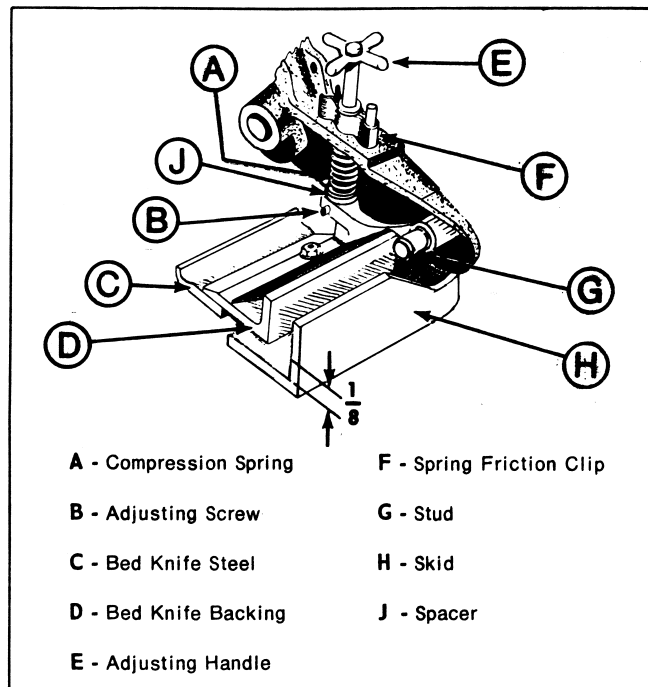

Figure 1
The bed-knife (C, Fig. 1) or stationary cutter bar is mounted on the bed-knife backing (D, Fig. 1) which is journaled or pivoted on each side of the cutting unit framework at (G, Fig. 1). The bed-knife must be adjusted evenly to the reel from both ends.
The bed-knife is adjusted by turning the handles (E, Fig. 1) on each end of the unit. Turn the handles clockwise to bring bed-knife closer to reel and counterclockwise to move it away.
The handles should be turned by hand. DO NOT USE TOOLS. A spring friction grip (F, Fig. 1) provides sufficient friction to hold any adjustment.
All Blitzter Mowers are now equipped with a new spacer (J, Fig. 1) to provide a greater spring pressure on the bed-knife shoe. The spacer is located below the compression spring (A) on both sides of the bed-knife shoe. When the spring (A) is fully compressed, remove the spacer (J); this will allow an additional 5/16" (7.93 mm) adjustment. When the spring (A) again is fully compressed, replace it with a No. 315844 spring, which will give additional 5/16" (7.93 mm) adjustment. When this replacement spring is fully compressed, it will be necessary to replace the reel and revert back to the original spring (A) and spacer (J). A No. 315844 Spring can be ordered from your Jacobsen Turf Equipment Distributor.
The skids should be adjusted so that there is a 1/8" clearance between skid (H, Fig. 1) and bed-knife backing (D, Fig. 1) at all times. This is to eliminate the transmission of shocks to the bed-knife from uneven terrain. The adjustment is made by loosening the four bolts, two in each end of the skid, and raising or lowering the skid as required.